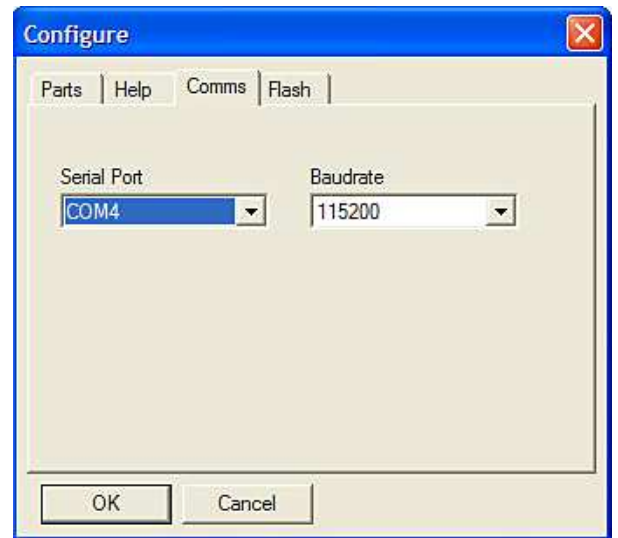

Figure 9. Selecting the Correct COM Port for the Downloader
4. Click **Configure** to display the box shown in Figure 9.
The downloader file should be configured for the **ADuC7026** microcontroller. The only option that may need to be changed is the COM port. The user can select the correct port from the **Serial Port** box on the **Comms** tab (see Figure 9).